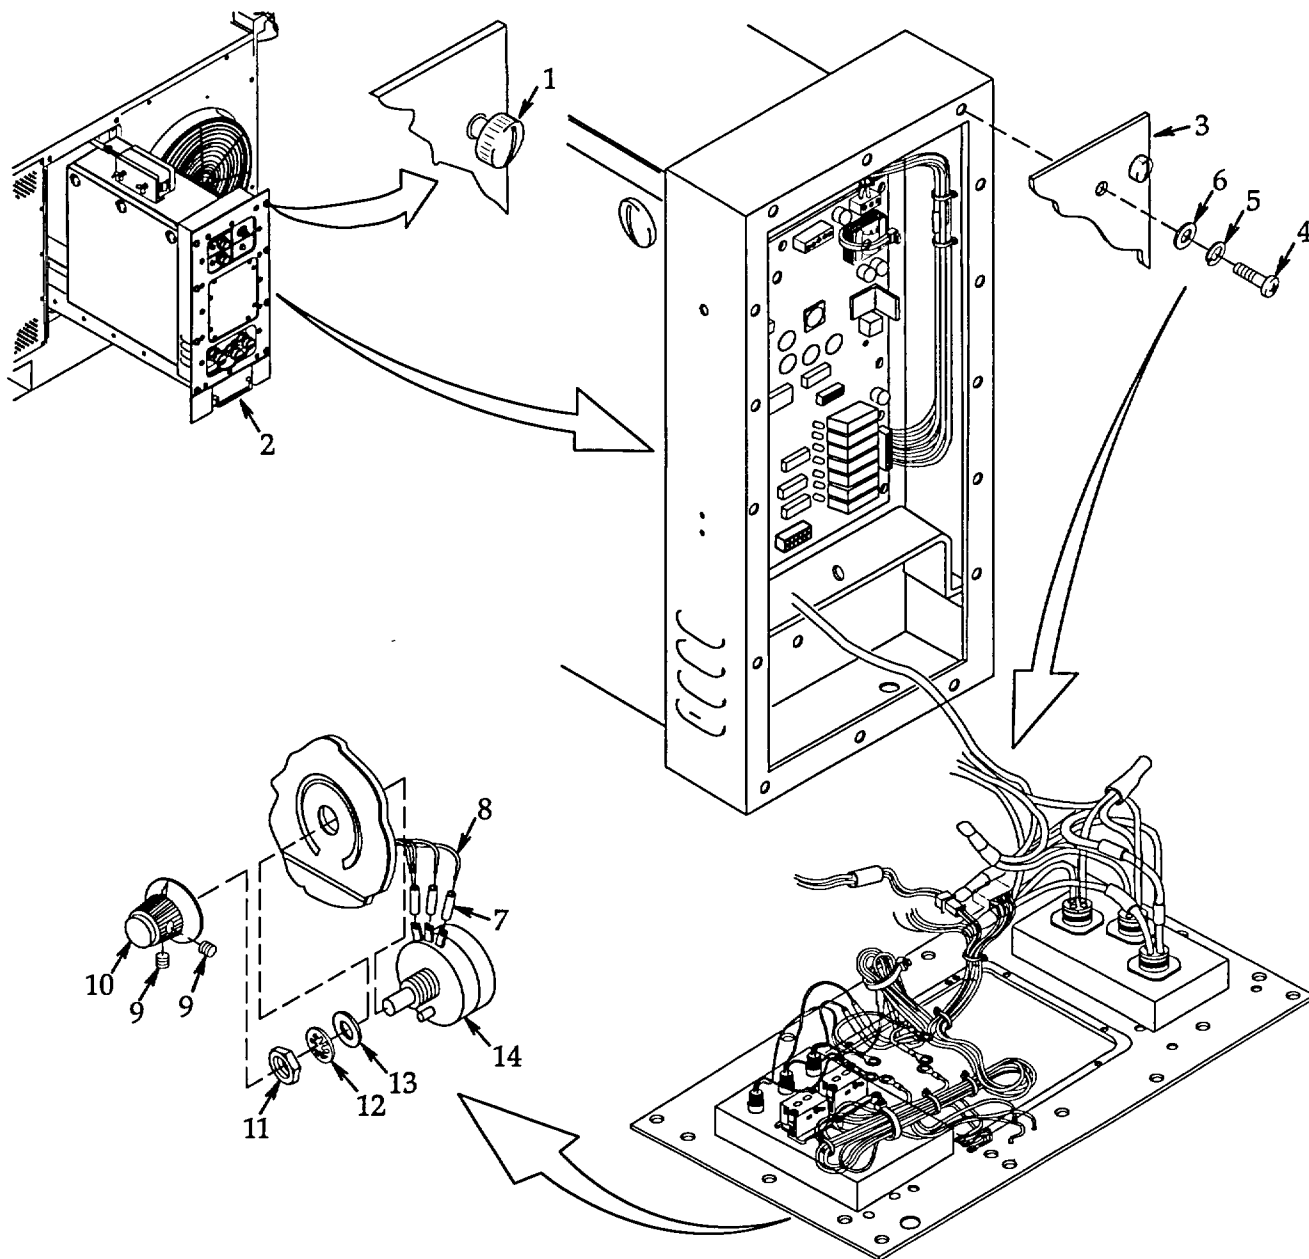

Figure 4-41. Potentiometer (R2).
a. **Removal.** See figure 4-41.
b. **Installation.** See figure 4-41.
- (1) Install potentiometer (14) and align anti-rotation pin. Secure using flat washer (13), lock washer (12), and nut (11).
- (2) Rotate potentiometer (14) shaft to position it at mid-point then install knob (10) with pointer at mid-point and secure by tightening two set screws (9).